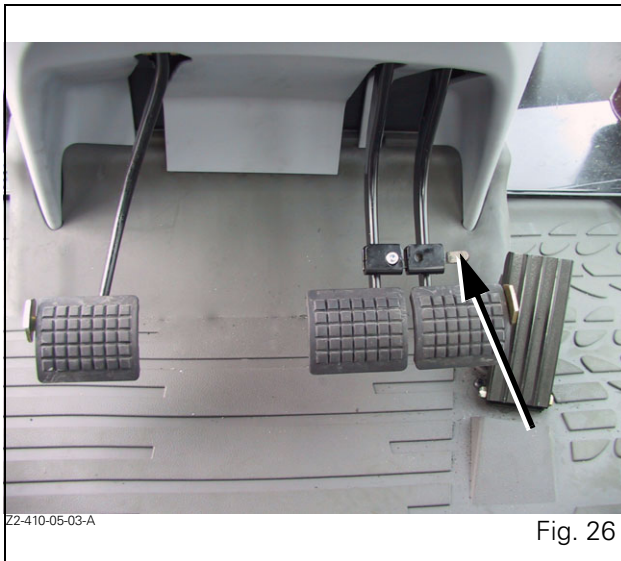

Fig. 26
**DANGER:** When driving at speed or on the road, the two brake pedals must be locked together (Fig. 26). Only the foot throttle should be used, and the throttle lever must be in neutral position.